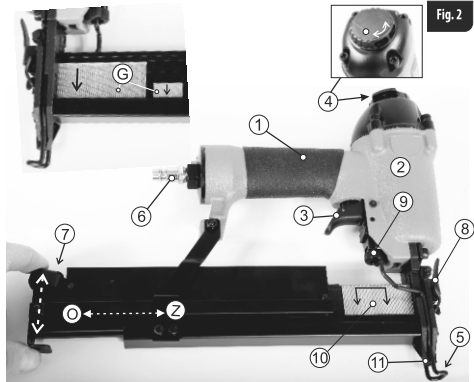

Fig. 2
OPERATIONAL DIAGRAM OF THE PNEUMATIC NAIL GUN - STAPLE , 66392 (Fig.2)
1. Press the magazine release button (7) while pulling on the magazine latch in direction "O" shown in Figure 2
2. Insert a pack of staples or nails (only one type - do not mix staples/nails of different sizes) into the magazine with the sharp points of the staples/nails directed downwards (staples - see arrows connected by a line in Figure 2; nails - see letter "G" in Figure 2)
4. Add a few drops (2-3) of oil (VG32) into the air inlet coupling (6) of pneumatic devices. On average, 2-3 drops of oil are assumed to be the amount required for all-day work.
6. For the device to start, it is necessary for the trigger (3) and the safety (5) to work simultaneously - see Fig. 2
Unclick the guide latch (8) shown in Figure 2. This will allow the rail to be tilted (Fig. 4) and provide access to jammed staples/nails.